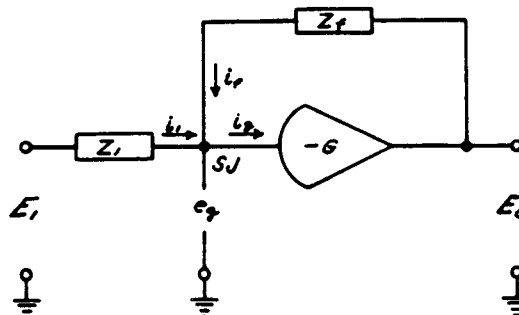

FIGURE 1 - BASIC OPERATIONAL AMPLIFIER
- A. To derive the mathematical relationship of the configuration given in Figure 1, we begin by summing the currents at SJ,